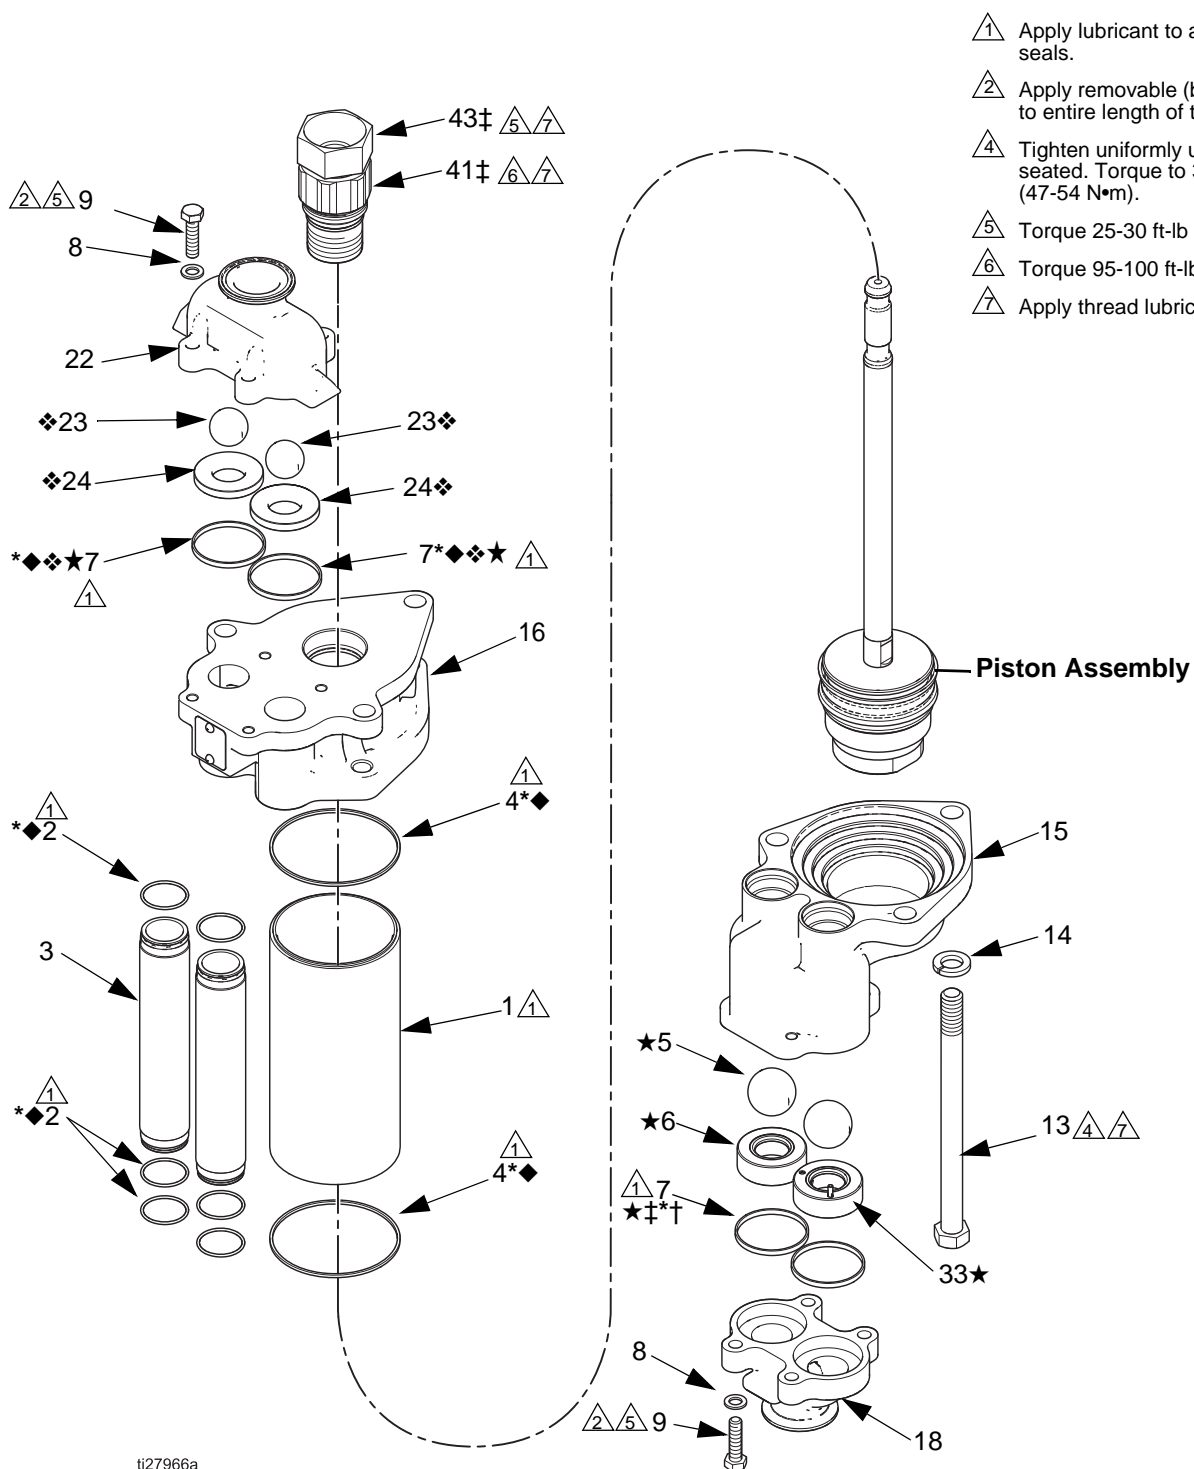

FIG. 5. Exploded View of Lower
NOTE: See FIG. 5, page 9, for an exploded view of the parts.
See FIG. 5, page 9, for an exploded view of the parts.
| <p>COMPONENT RUPTURE HAZARD</p> <p>The inlet check seat that has the relief valve (6★) must be installed at the fluid inlet, as shown in FIG. 5. The relief valve reduces the risk of pump overpressurization. The seat cannot relieve pressure if installed on the other side of the fluid inlet housing (15).</p> | | | |
4. Place the inlet check manifold (18) on the fluid inlet housing (15). Apply removable (blue) Loctite® 243 to entire length of the capscrew (9) threads. Install the lock washers (8) and capscrews (9). Torque to 25–30 ft-lb (34–41 N•m). See FIG. 5.